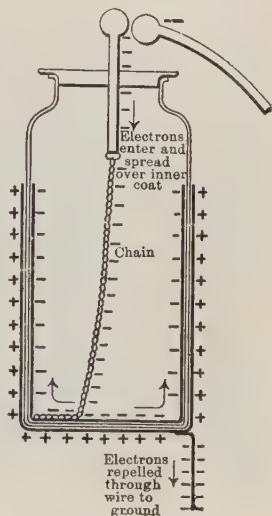
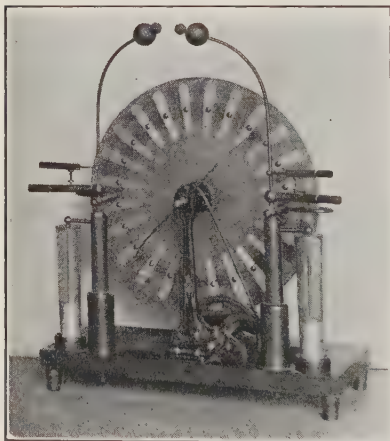

FIGURE 427. — LEYDEN JAR.
FIGURE 428. — ELECTROSTATIC MACHINE.
**286. Condensers.** — An important application of electrostatic induction is found in electric condensers, of which the Leyden jar is a familiar form. The Leyden jar consists of a wide-mouth glass jar, coated within and without with tinfoil for about two thirds of its height (Figure 427). A metallic knob and rod, mounted in an insulating cover, is connected with the inside coating by means of a chain. The jar is charged by *grounding* the outer coating, by holding it in the hand or otherwise connecting it to the earth, and bringing the knob in contact with an electrostatic machine. This machine (Figure 428) is a device by which a constant succession of positive and negative charges may be produced by induction; it is used for experimental work, for medical applications of electricity, and for operating X-ray tubes.
Condensers are made in a great variety of form (Figure 428), but always consist of conducting plates separated by